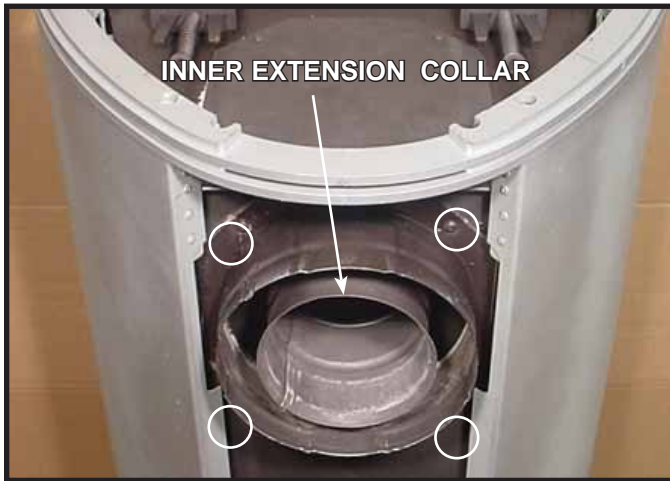

Figure 7.9
6. Remove the four screws from the cover plate on rear of gas stove. Set cover plate aside. Retain screws. (See **Figure 7.9**). Attach DV adapter collar in its place. Install the inner extension collar.